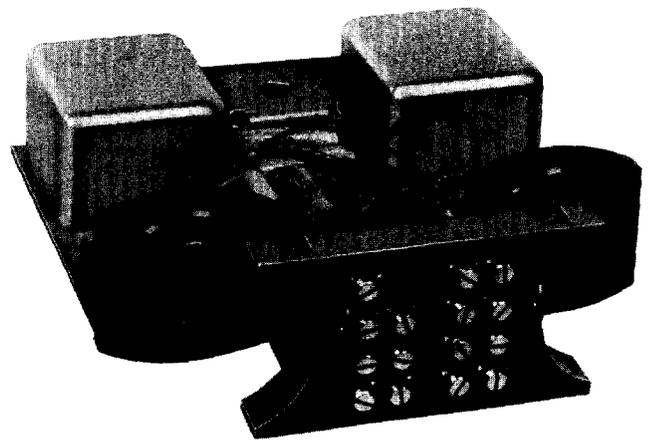
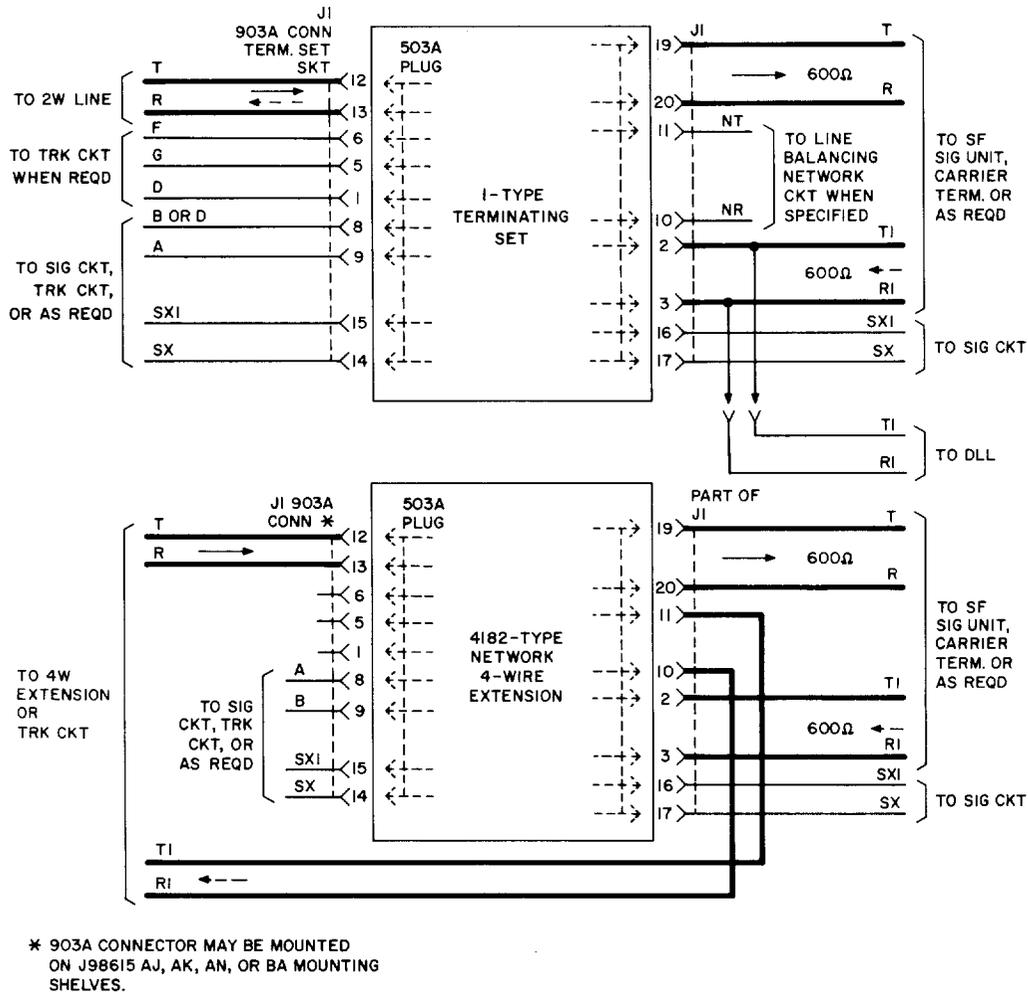

Fig. 1—4182C Network, 4-Wire Extension
Fig. 2—Terminal Correspondence—1-Type Terminating Set and 4182-Type Network
1.01 This section describes the 4182C 4-wire network (Fig. 1). The network is one of a series of 4-wire extension networks. Four-wire extension networks extend circuits from carrier terminals or 4-wire metallic facilities to customer premises or to central office switching machines on 4-wire cable pairs. They are physically interchangeable with 1-type terminating sets (Fig. 2). Consequently, the choice of plug-in units — 1-type terminating sets or 4182C networks — makes the same physical equipment mountings suitable for either 2-wire or 4-wire extensions.
2.01 The 4182C network (Fig. 1) is a plug-in unit equipped with a 20-pin connector and is designed to be plugged directly into the 1-type terminating set socket of the mounting shelf.